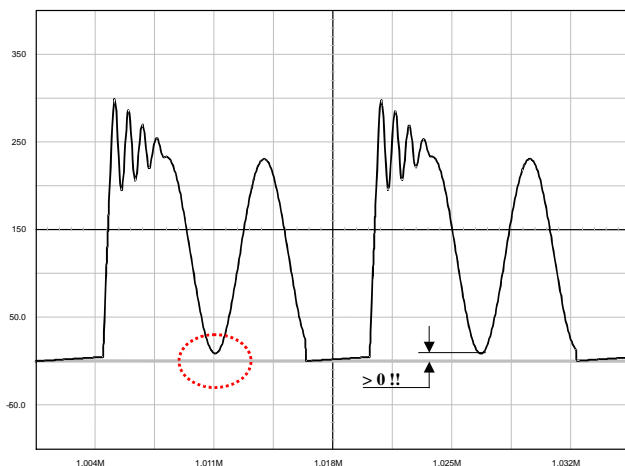

Figure 35. The Drain-Source Wave Shall Always be Positive
1. The lateral MOSFET body-diode shall never be forward biased, either during start-up (because of a large leakage inductance) or in normal operation as shown by Figure 35. This condition sets the
Figure 37a: the simple capacitor limits the voltage according to The lateral MOSFET body-diode shall never be forward biased, either during start-up (because of a large leakage inductance) or in normal operation as shown by Figure 35. This condition sets the maximum voltage that can be reflected during  $t_{\text{off}}$ . As a result, the Flyback voltage which is reflected on the drain at the switch opening cannot be larger than the input voltage. When selecting components, you thus must adopt a turn ratio which adheres to the following equation: Equation 3. This option is only valid for low power applications, e.g. below 5 W, otherwise chances exist to destroy the MOSFET. After evaluating the leakage inductance, you can compute C with Equation 4. Typical values are between 100 pF and up to 470 pF. Large capacitors increase capacitive losses...